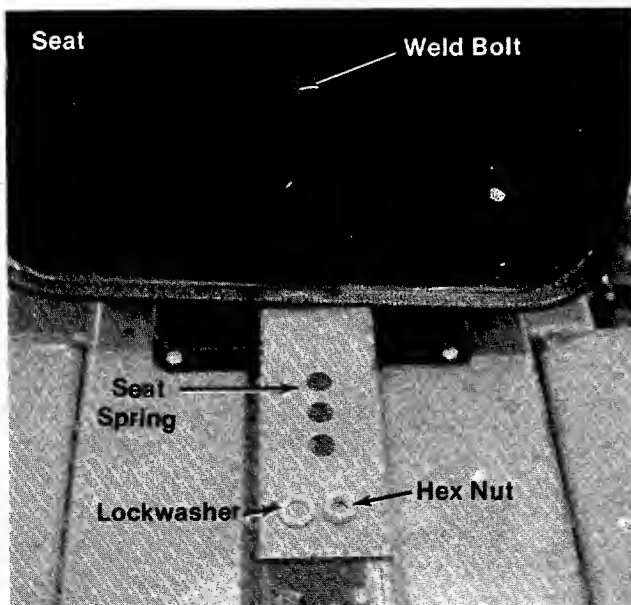

FIGURE 3.
Step 5. Use the hex nut and lockwasher to attach the seat to the seat spring in one of the three adjustment holes. (See figure 3.)